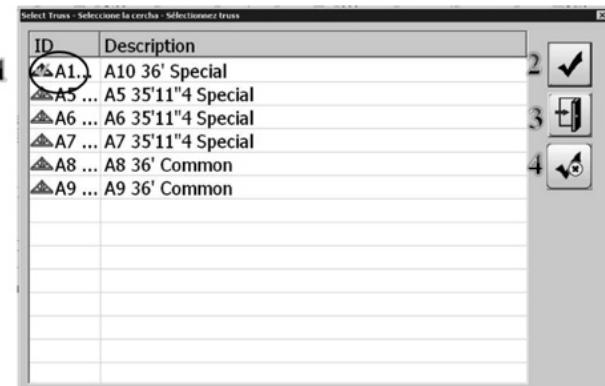

Figure 32
Once the job is loaded from the Job Select screen the Select Truss screen appears (Figure 32). From the truss menu, click on the truss name that needs to be setup on the table and then click the check button (2).
The Truss Select screen includes the following items which are identified by number on Figure 32: